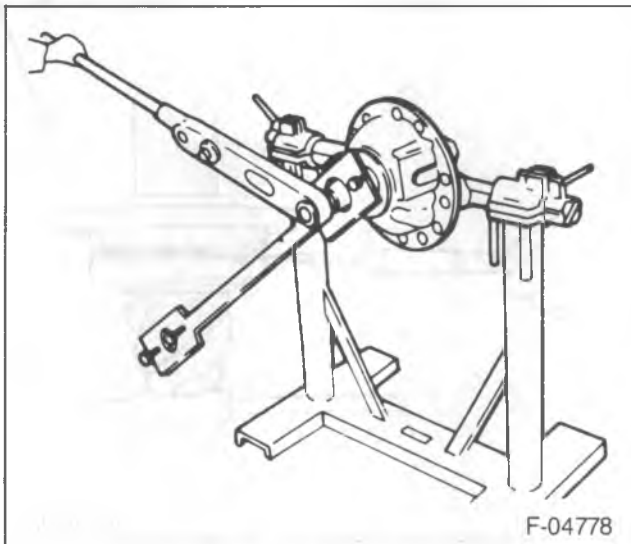

Figure 11—Removing the Pinion Nut
16. Pinion shaft nut (62) and washer (61) using J 3453 to hold the pinion yoke (figure 11).